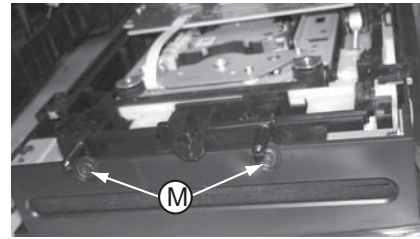

Figure 13
- 2) Loosen 2 screws "M" to remove the BD module as shown in figure 13.